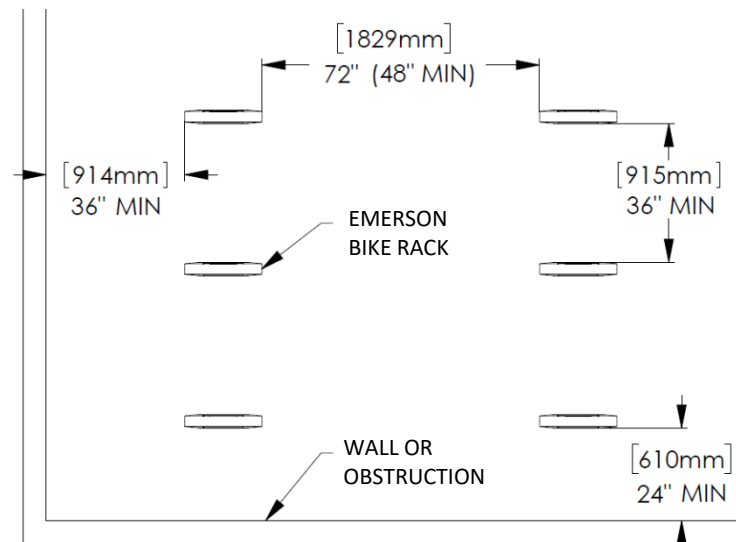

Fig. 1. - Recommended spacing, according to Association of Pedestrian and Bicycle Professionals (APBP)
2. Mark hole locations. See Fig. 1 for recommended spacing.